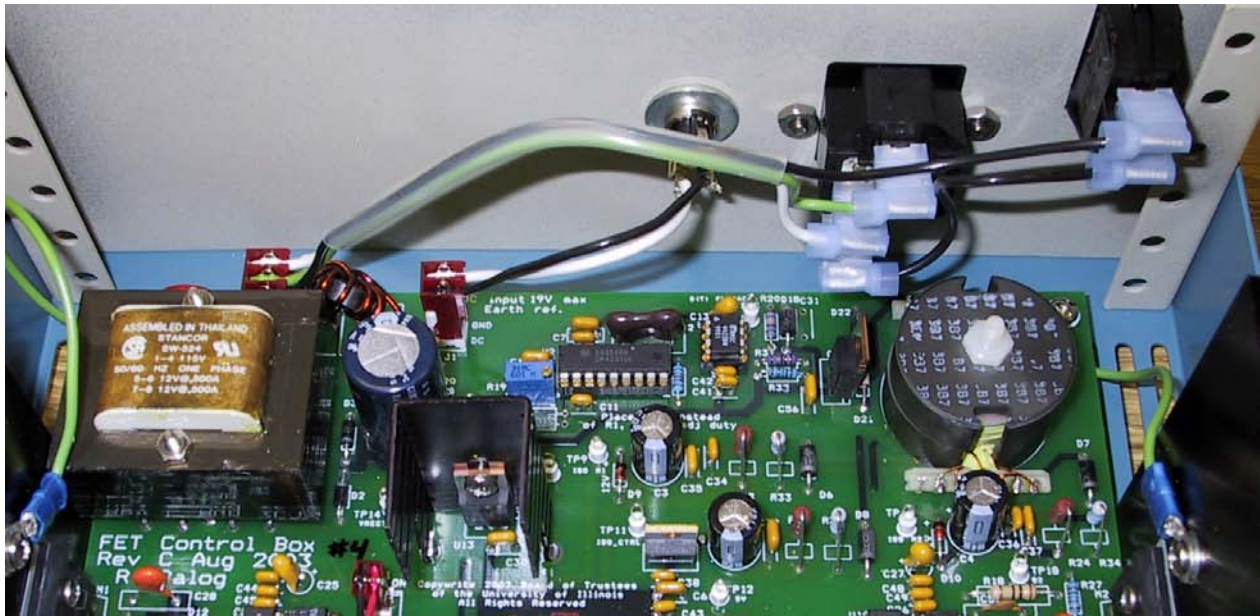

Figure 22: Rear panel wire harness
9. Attach the heatsinks to the bottom enclosure with 4-40x $\frac{3}{8}$ " (4) Phillips pan head screw.
11. Attached PCB to stand-offs using 6-32x $\frac{3}{16}$ " (5) Phillips pan head screws. Hand tighten only.
14. Attach all wire harness from front and rear panel as shown in Figure 22.